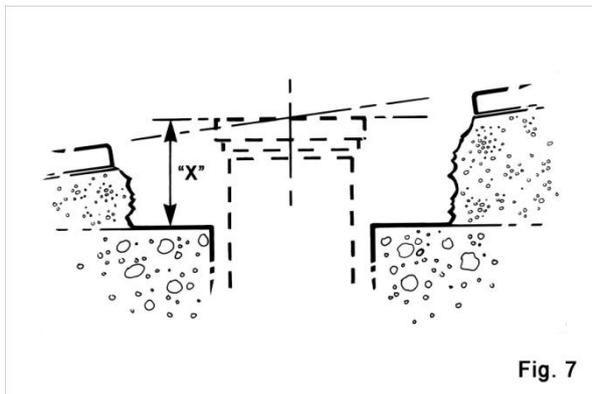

Fig. 7
- **Note:** Measure at the center to ensure a "mean" dimension, especially if the pool side slopes (see Fig. 7).